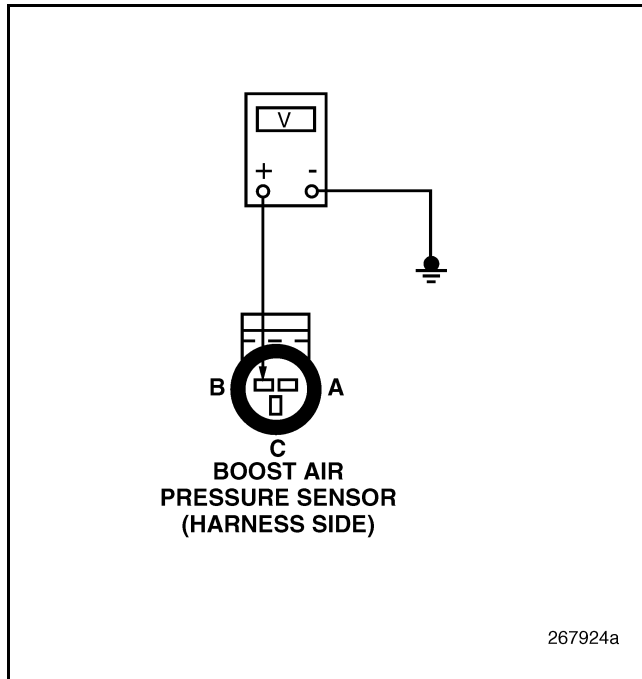

Figure 183
4. Measure the voltage between Boost Air Pressure (BAP) Sensor harness connector pin B (reference voltage line) and a good ground (see Figure 183).